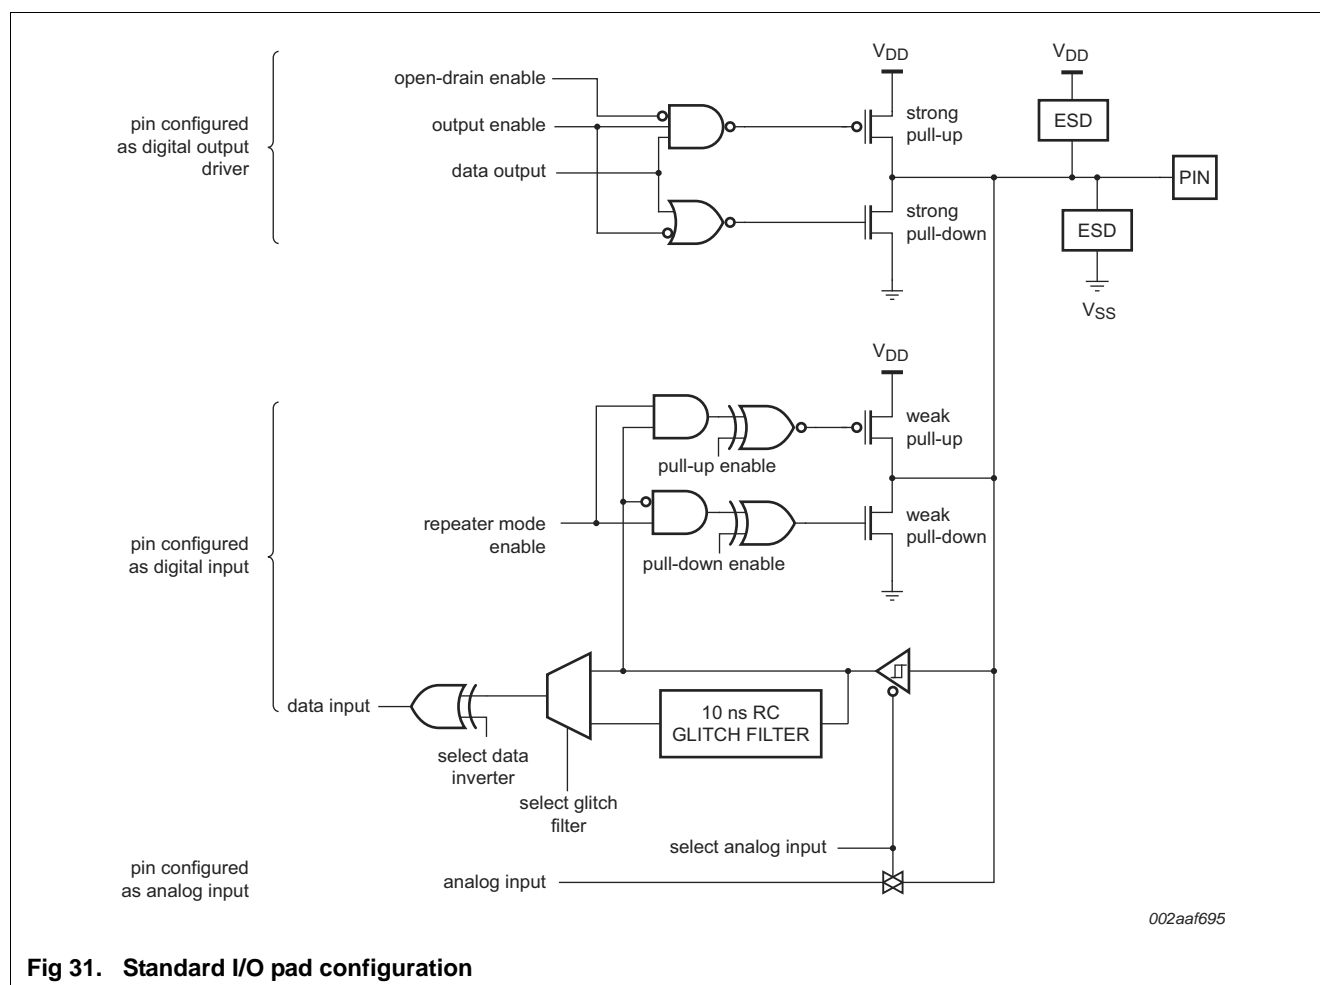

Fig 31. Standard I/O pad configuration
- Pull-up/pull-down configuration, repeater, and open-drain modes can be programmed through the IOCON block for each GPIO pin (see Figure 31 and Figure 32 for functional diagrams).
Figure 31 shows the possible pin modes for standard I/O pins with analog input function: